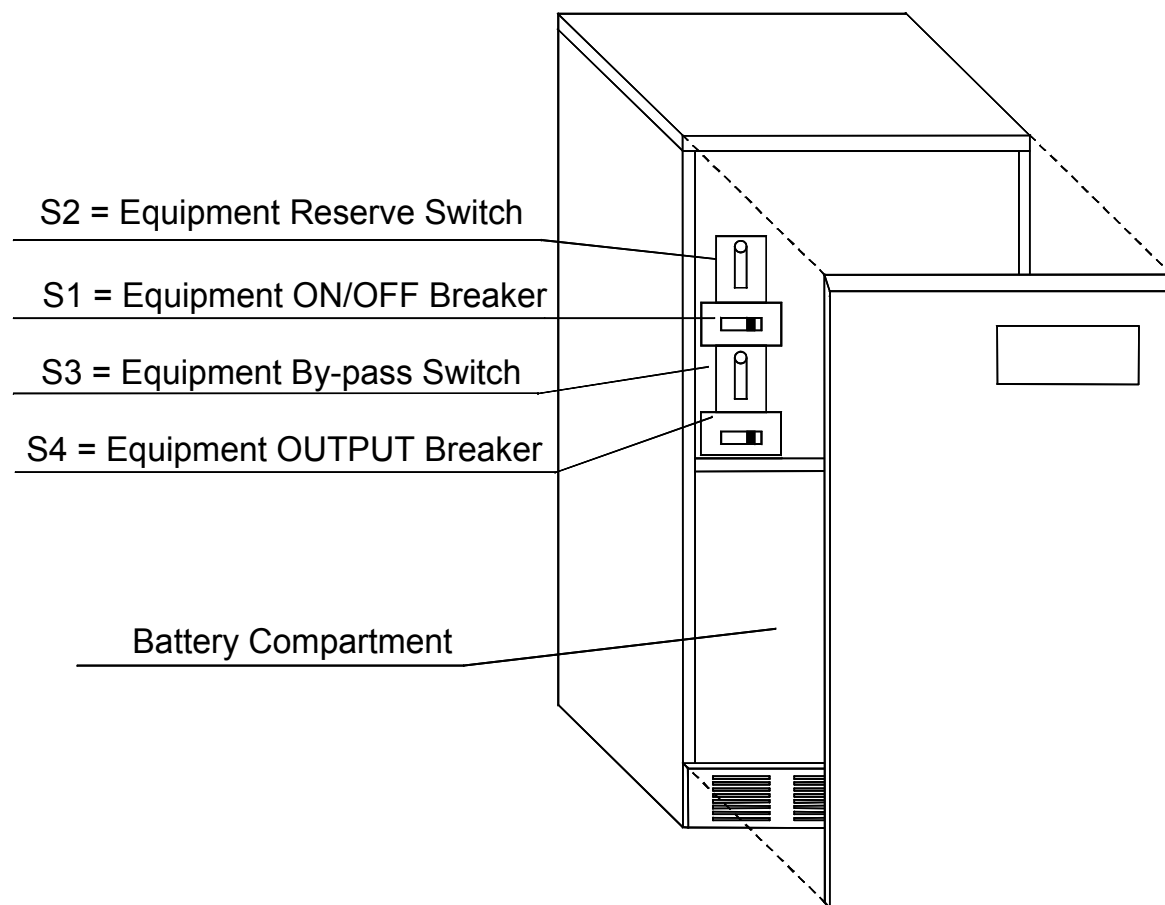

Figure 18 - 24 – 12/18/24kVA: Switches and Breakers
Ensure the AC supplies and load are switched OFF. Check that **all the EDP70 PLUS UPS Switches** (behind the front panel) are switched OFF, see Figure 18 .
- a) Remove front panel see Figure 18.